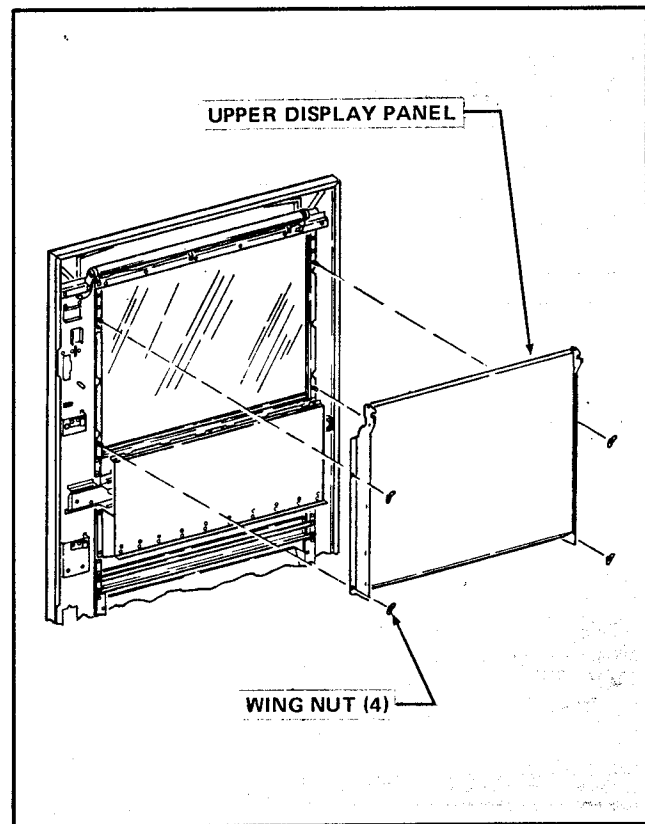

Figure 4-2. Upper Display Panel
1. To remove the Upper Display Panel from the Merchandiser. See Figure 4-2.
2. To replace the Upper Display Panel. See Figure 4-2.